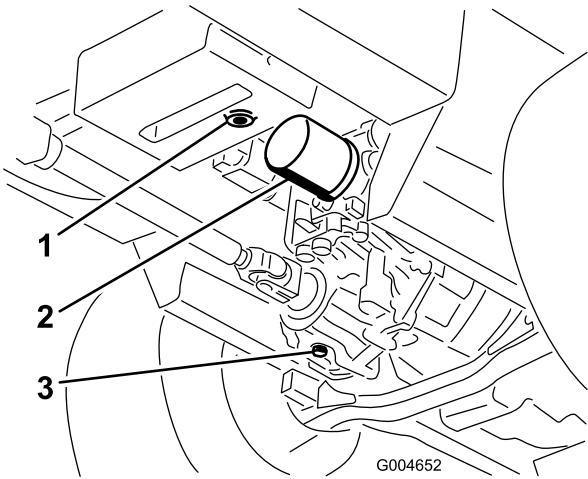

Figure 77
3. Place a large pan under the hydraulic reservoir and transmission case and remove the plugs, draining all of the hydraulic fluid (Figure 77).
4. Clean the area around the hydraulic oil filter and remove it (Figure 77).